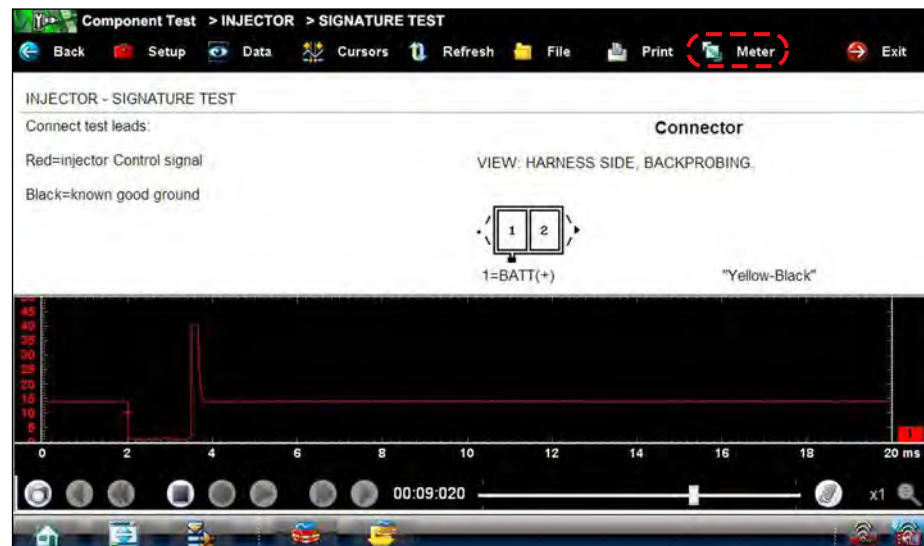

Figure 7-9 Sample view meter window
- **View Meter**—opens a live meter set up to perform the test in the lower portion of the screen (Figure 7-9). Once the meter view is open, the Component Test toolbar at the top of the screen is replaced by the Scope Multimeter toolbar, which allows you to make adjustments to the settings. See “Scope Multimeter Toolbar” on page 93 for details.
A Meter button, which is only available in the Component Test view meter mode, appears on the upper toolbar (Figure 7-9).
1. With View Meter active (Figure 7-9), tap the toolbar **Meter** button once and the meter expands to fill the entire screen.
3. Tap the **Meter** button a third time to close the window and return to the standard view as shown in Figure 7-9.